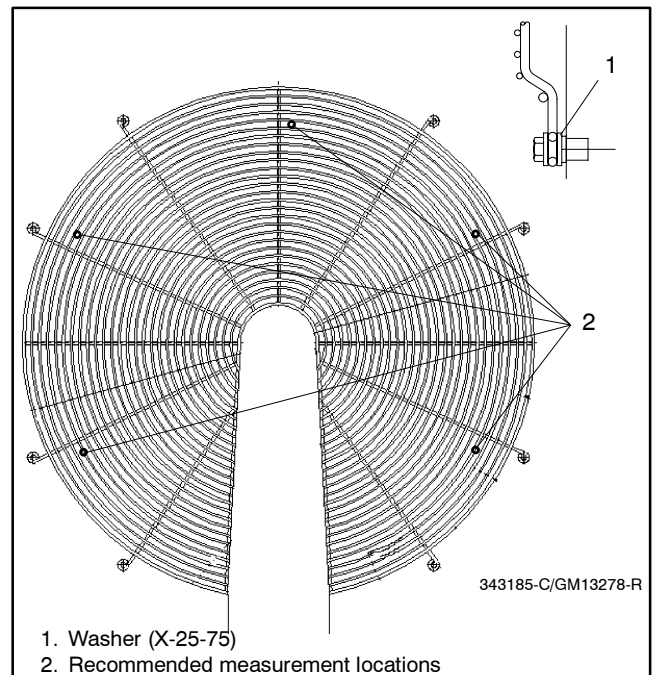

Figure 3 Fan Guard Clearance
- 3.4 Install the fan guard to the radiator shroud using the existing eight bolts and position the eight plain washers (X-25-75) between the fan guard and shroud grommet. See Figure 3.
- 3.5 Check the fan tip to fan guard clearance on at least five blade locations. See Figure 3 for recommended locations. Fan tip to fan guard distance should be measured between the 4th and 5th bars inward from the fan guard outer edge. The minimum distance must be at least 35 mm (1.38 in.) for each fan blade. The fan blades should be evenly spaced around the fan guard circumference.